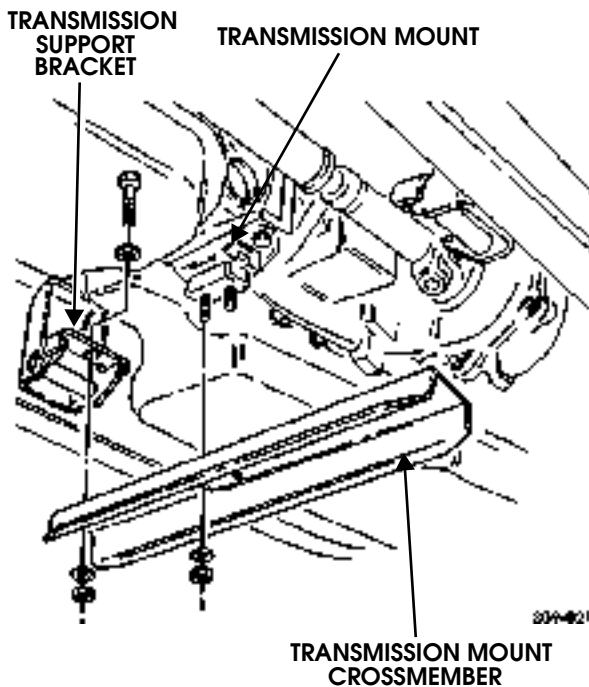

Figure 9-133: Transmission Mount Crossmember Replacement
1. Place support under transmission and remove two locknuts, washers, bolts, and washers securing transmission mount crossmember to two transmission support brackets (Figure 9-133).
1. Install transmission mount crossmember on two transmission support brackets with two washers, bolts, washers, and locknuts. Tighten locknuts to 90 lb-ft (122 N•m) (Figure 9-133).